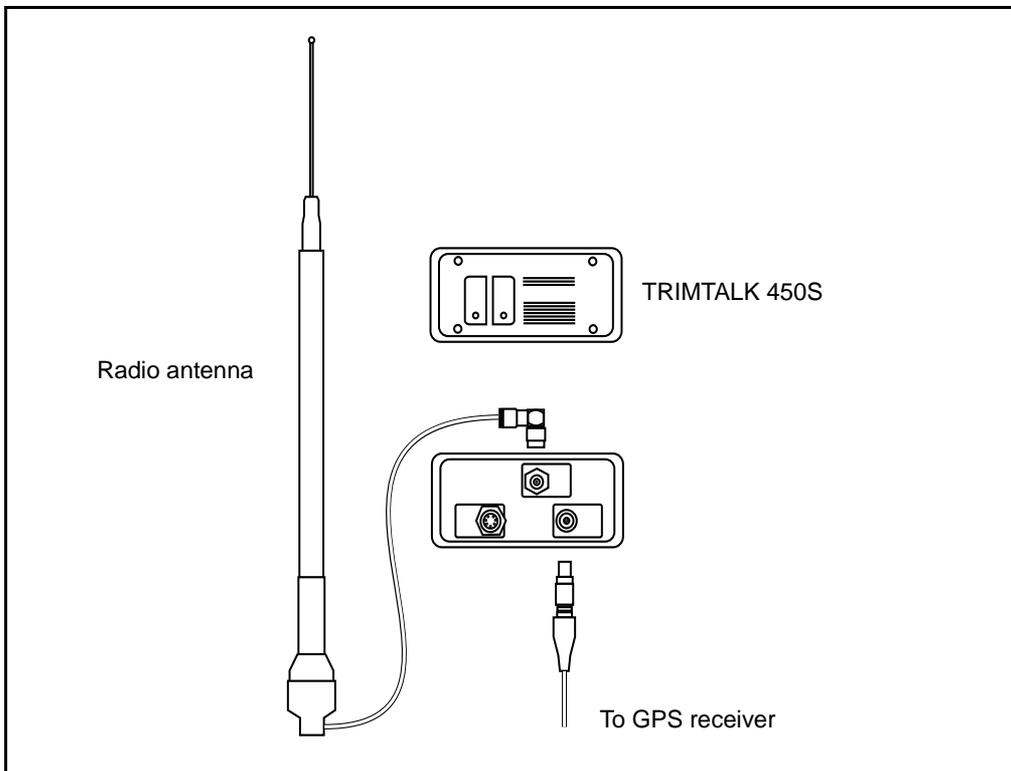

Figure 11.4 Trimble radio connection
3. Connect the radio antenna to the radio using the cable attached to the antenna. If using a TRIMTALK™ radio, see Figure 11.4 on page 288.
4. Connect the radio antenna to the radio using the cable attached to the antenna. If using a TRIMTALK radio, see Figure 11.4 on page 288.
Figure 11.4 shows a Trimble radio connected to a radio antenna.